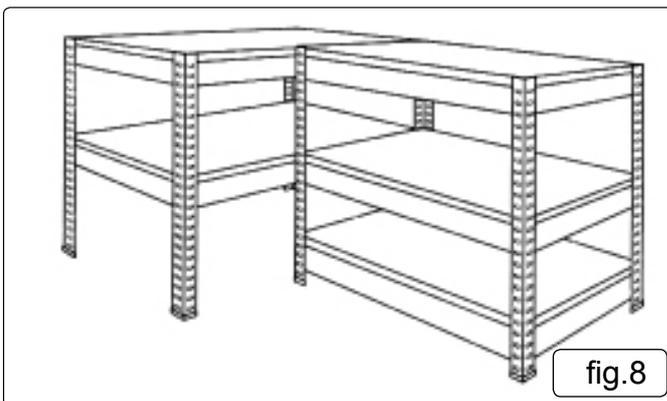

fig.8
5.9. See fig.8. To assemble as a corner unit make up two separate frames following steps 4.1 to 4.3 but with different shelving positions. Make up one frame with 3 shelves and one frame with two shelves as shown below. Ensure that the middle and top shelves on both frames are at the same height. Fix the frames together with the four nuts and bolts supplied. Place the 5 MDF shelves into position in the frames.